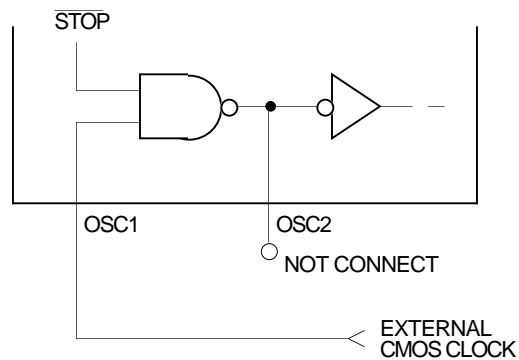

Figure 2-3. External Clock Connections
- An external clock signal (Refer to Figure 2-3.)
An external clock from another CMOS-compatible device can drive the OSC1 input, with the OSC2 pin not connected, as Figure 2-3 shows.